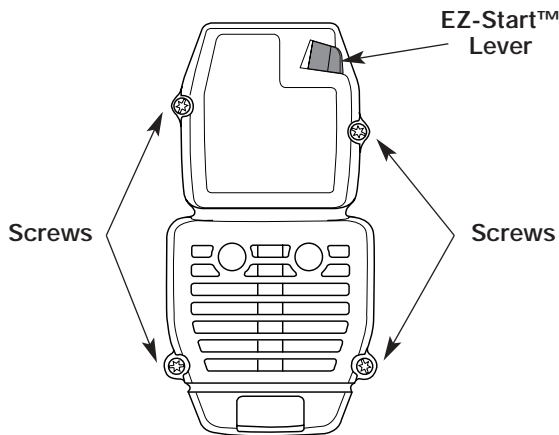

Figure 26
1. Remove the four (4) screws securing the air filter/muffler cover. See Figure 26. Use a flat blade or T20 Torx bit screwdriver.
2. Insert the four (4) screws into the holes in the air filter/muffler cover and tighten. See Figure 26. **Do not over tighten.**